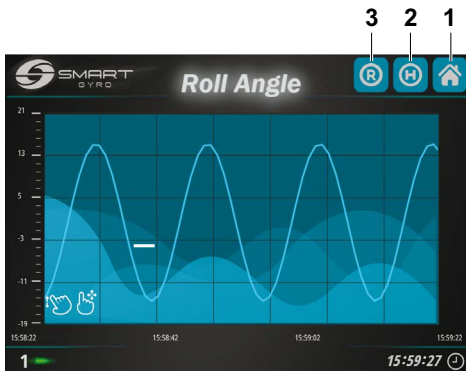

Figure 26
the Roll Angle page is visualized on the display (Figure 26).
Pressing the “R” icon on the top right corner (Figure 26, (3)), the visualization of the graph is started; the graph scrolls to the left.
Pressing the “H” icon (Figure 26, (2)), the display visualizes the data stored in the non volatile memory of the Display, as a background process.
Pressing the Home icon on the top right corner (Figure 26, (1)) will return you to the Home page.